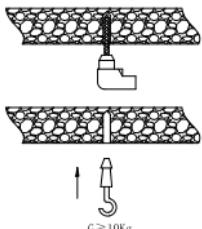

Figure 2
2. Installare il gancio sul tetto (Si suggerisce un gancio M10 con portata superiore a 10Kg). (fig.2)
2. Install the hook on the roof. (Suggest the hook which is M10 and its load-bearing is more than 10Kg) (fig.2)